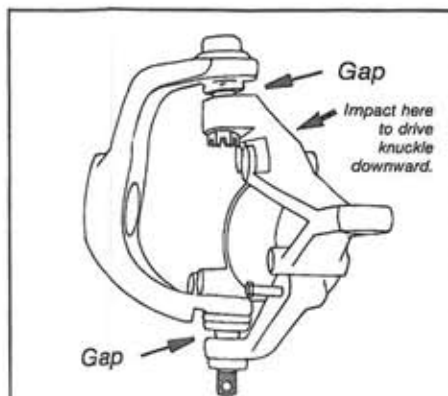

Figure 1
5. Drive spindle assembly downward to extend maximum upper ball joint travel. (See figure 1)
Remove hub/bearing/axle assembly as a unit (**Fig. 1**) using care not to damage inner axle seal.